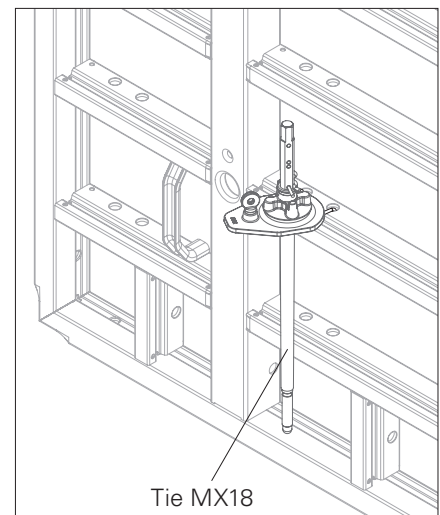

Fig. A8.03
Hook Tie MX15 into Anchor Hook MX (106). (Fig. A8.03)